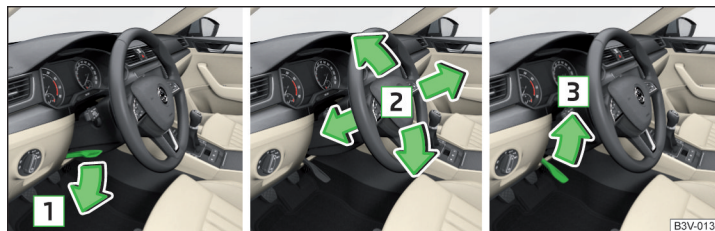

Fig. 3 Adjusting the steering wheel position
- Swing the safety lever under the steering wheel in the direction of arrow **1** » Fig. 3.